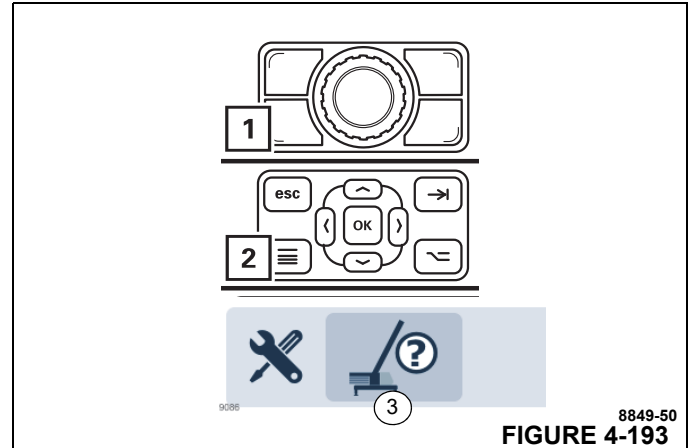

FIGURE 4-193
If you need to correct values, press the button (1, Figure 4-193) or (2) and open the Enter rigging mode (3) menu.